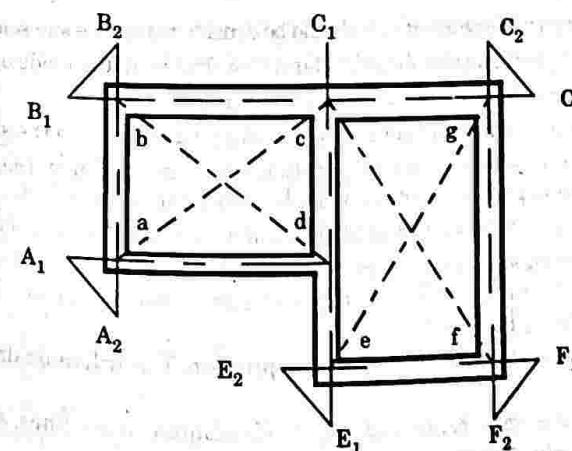

Fig. 3.4.1.
- For example (Fig. 3.4.1), we have to set out the plan on the ground. For this, we have to follow the given procedure :